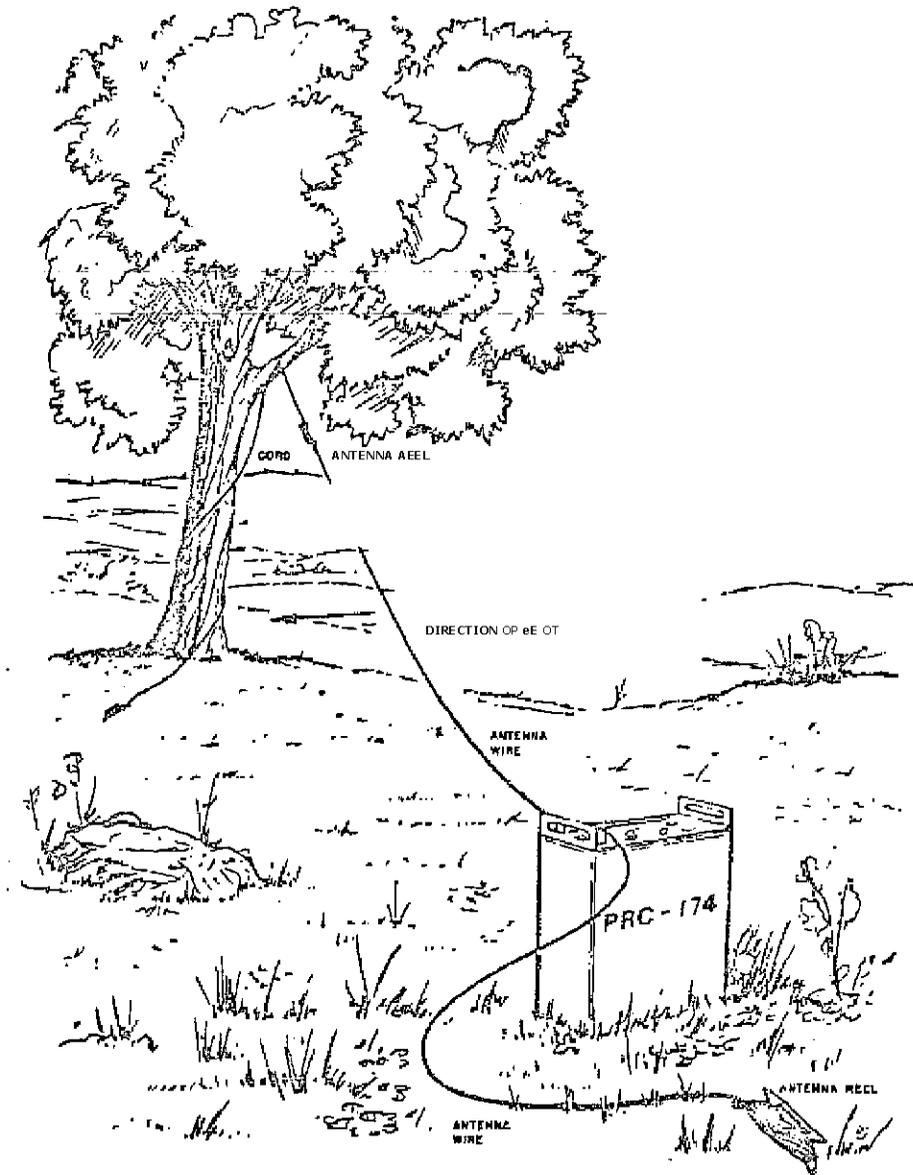

Figure 2-9. Slant-wire antenna
a. The most effective propagation direction of the dipole antenna, for both "transmit" and "*receive*" modes, is broadside to the wire, as indicated in Figure 2-9. If two suitable supports
a. The most effective propagation direction of the slant wire, for both transmit and receive modes, is broadside to the wire, as indicated in Figure 2-9.
- 2) Erect the antenna as shown in Figure 2-9: